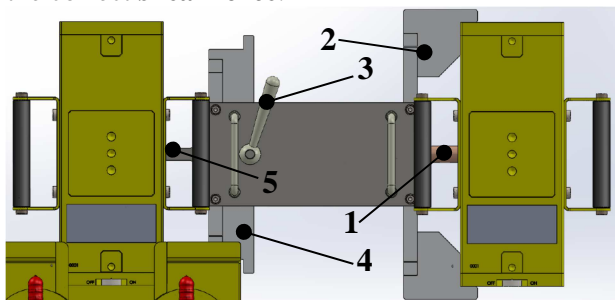

Figure 3: shear force test unit
10. Turn the lever (3) to the position in which the sensor pin (1) is retracted as far as possible.
11. Attach the safety line and position the test unit with the anchor point fork (2) against the anchor magnet. The 3 magnets at the lower end ensure that the test sheet sticks to the wall. Clean the wall to ensure proper adhesion.
12. Attach the safety line and position the console against the support of the counter magnet fork (4) as shown in figure 3. Position the counter magnet. Switch the counter magnet on.
16. Turn the lever (3) until the required force (see MEASUREMENT SHEET) is reached.
18. Turn the lever (3) back to retract the sensor pin (1).